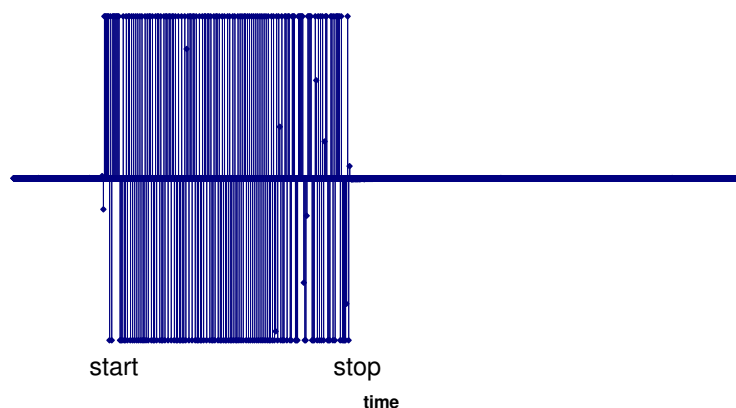

Figure 2: buzz function of the BA-03X
(14) BUZZ push button
Push button for activating the BUZZ or ELECTR. CLEAR circuit (duration set by (15)). To facilitate the penetration of the cell membrane the BUZZ circuit is provided which is based on oscillations caused by overcompensating the capacity compensation system. The overcompensation of capacity compensation yields to very powerful high-frequency oscillations (see Figure 2).
(15) DURATION potentiometer